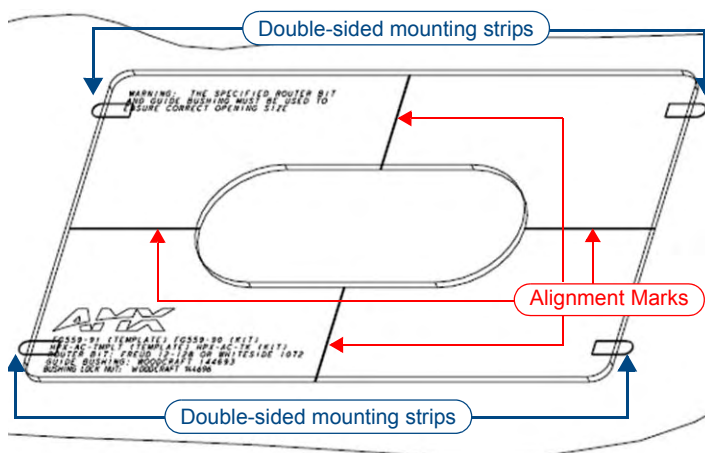

FIG. 4 HPX-AC-T Router Template
2. Apply mounting strips or other appropriate double sided tape to the bottom surface of the router template, making sure that the rounded edges of the mounting strips protrude slightly beyond the edges of the template (see FIG. 4).
3. Use the alignment marks scribed on the template to align the template properly on the mounting surface (FIG. 4).